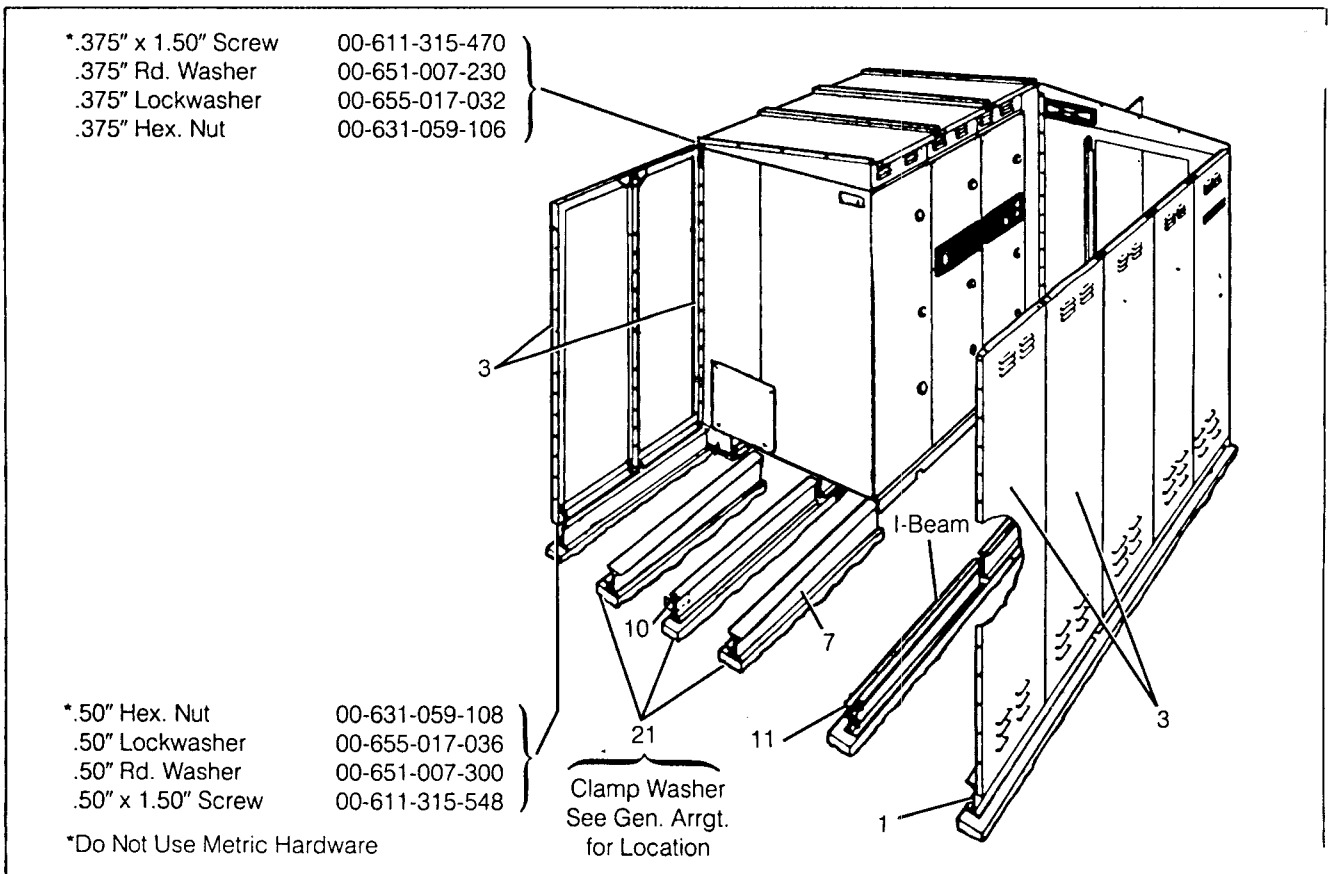
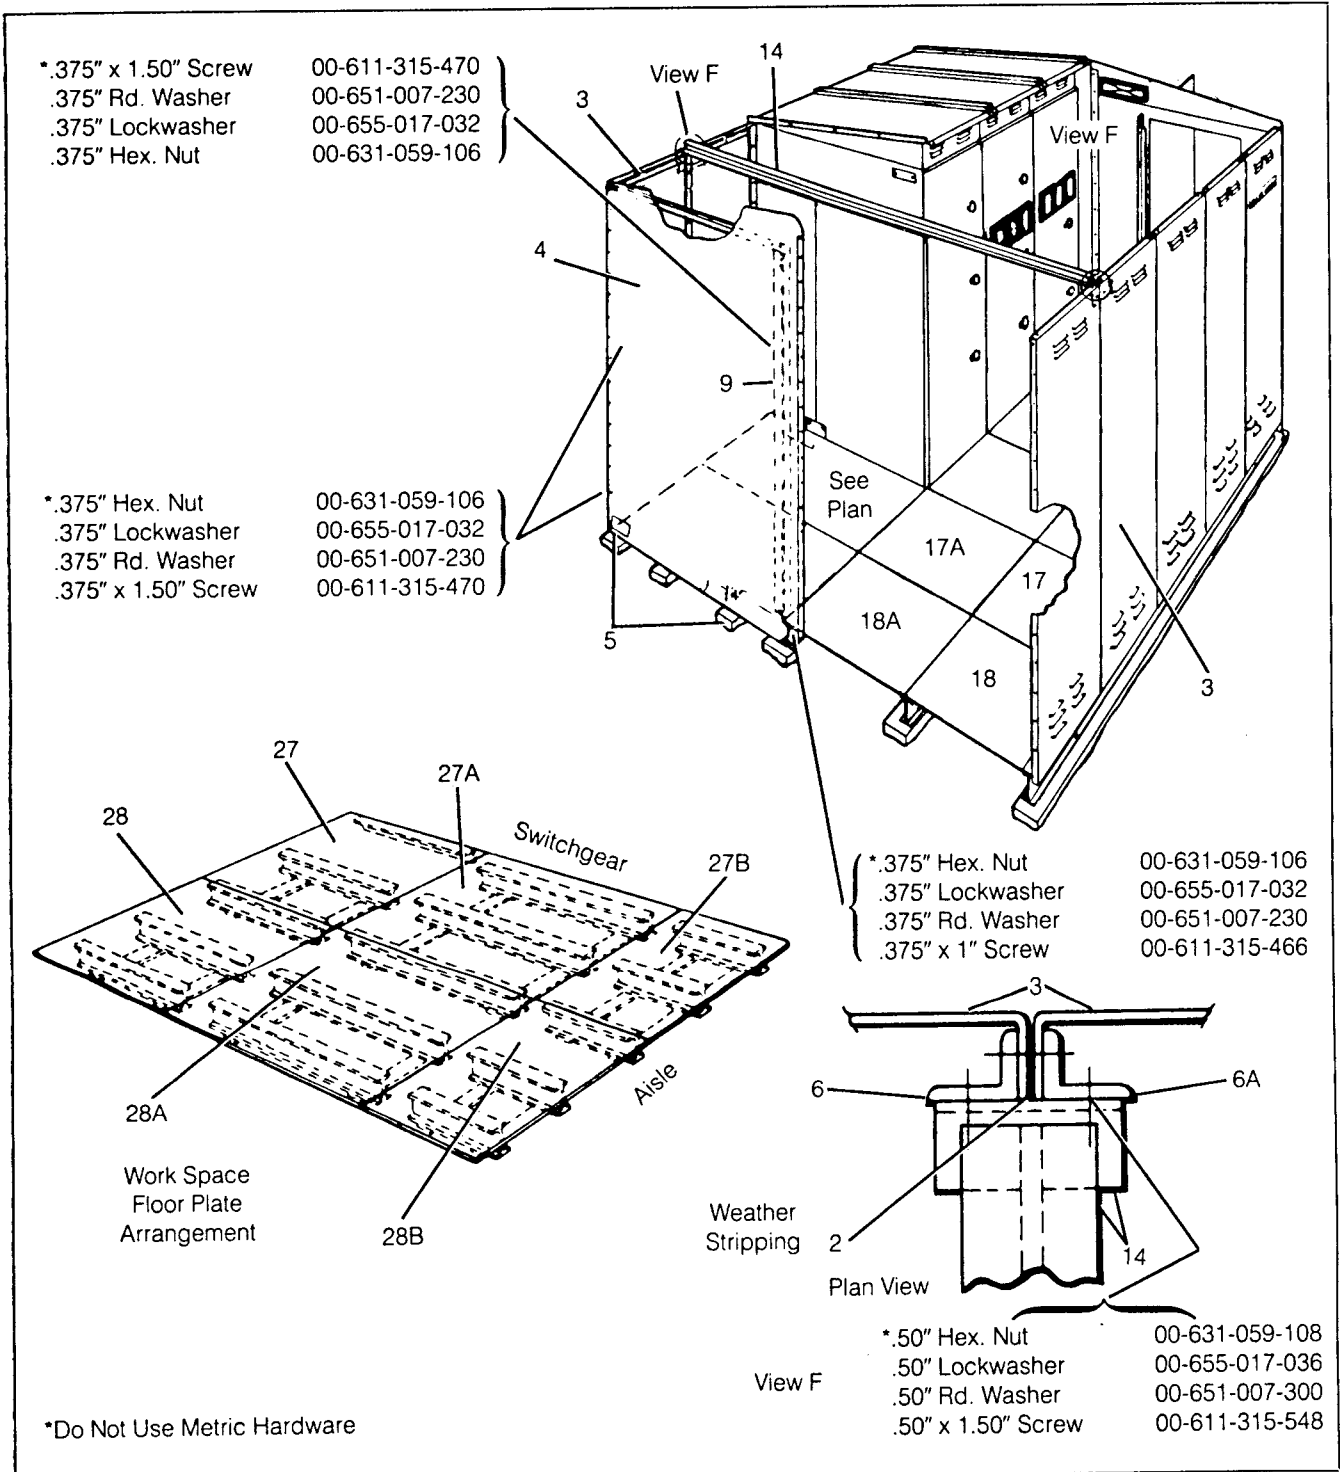

Figure 40. Beam Placement (15 kV) — Single Aisle With Work Space
Figure 41. Floor Plate Installation (15 kV) — Single Aisle With Work Space
5. See Figure 40. Put the work aisle and work space beams (1, 7 and 11) in position as indicated on the general arrangement drawing.
6. Assemble aisle walls (3). See general arrangement drawing for location of special panels for fans, etc. Apply .50" (12.7 mm) sealant tape to the joints. Place the tape so that one edge is on the vertical centerline of the holes and the other edge is toward the seam which will be exposed to the weather.
7. Bolt plates (3) together, to switchgear unit and to beam (1). Apply .50" (12.7 mm) sealant tape to the joints.
8. Attach angles (10) to ends of beams.
9. See Figure 41. Mount beams (14) between walls at each joint (view "F").
10. Mount frame (9) at end of work space.
11. Install end cover (4) and attach it to rear plate (3), frame (9) and to angles (10).
12. Install floor plates (17, 17A, 18 and 18A) in the same arrangement as that for single aisle layouts (see Figure 25). Install the floor plates in the work area as shown in Figure 41. Install covers (5).